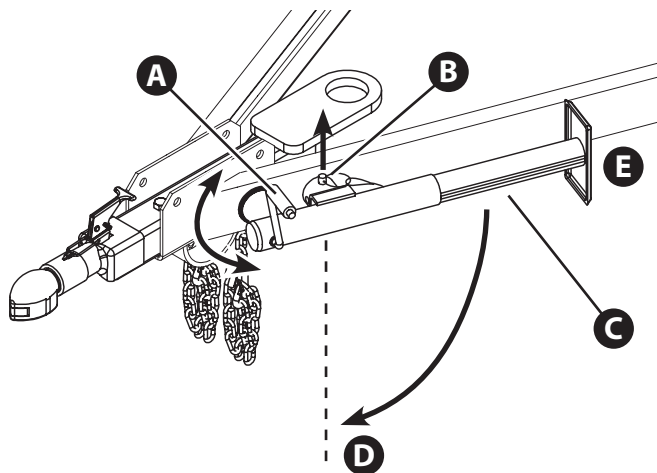

Figure 3.3
1. To raise the tongue (or extend the jack) turn the handle (A, Figure 3.3) clockwise.
2. Pull the tongue jack quick release pin (B, Figure 3.3) from the locking hole so that the jack (C) can rotate.
- o Trailer support position – vertical with support pad down (D, Figure 3.3).
- o Transport position – horizontal with support pad rearward (E).